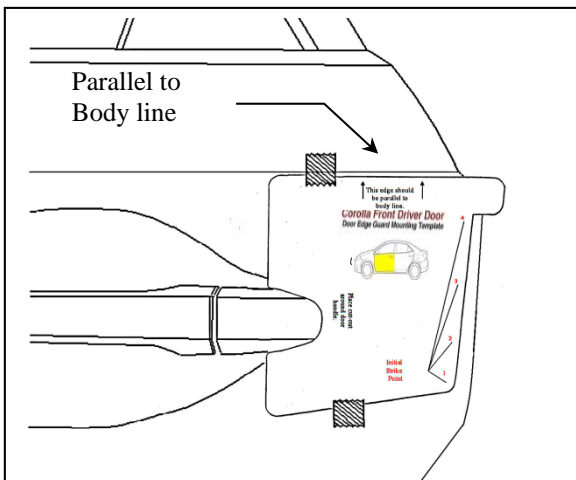

Fig. 1-3
(1) If you will be using the paper templates, use scissors and carefully cut them out at this time.
(2) Select the rear door template and fit the notch around the door handle. Adjust it as needed to ensure it is parallel to the body line directly above the template. If needed, tape it into place using painter’s masking tape (Fig 1-3).